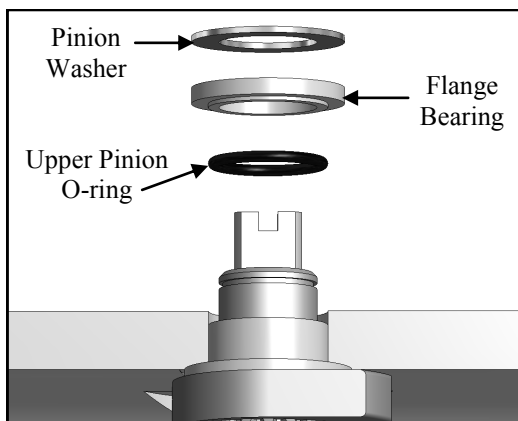
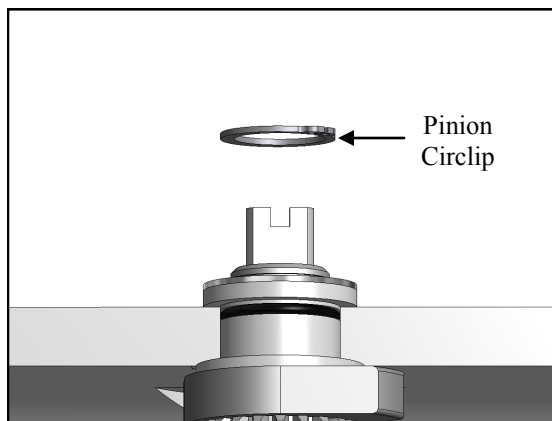

Fig. 9.6
Fig. 9.7
5. Press the top pinion o-ring into the inset around the top of the pinion then install the flange bearing and top pinion washer (Fig. 9.6). Use a pair of circlip pliers to install the pinion circlip (Fig. 9.7) Be careful not to expand the circlip too much as it may be damaged if over expanded.